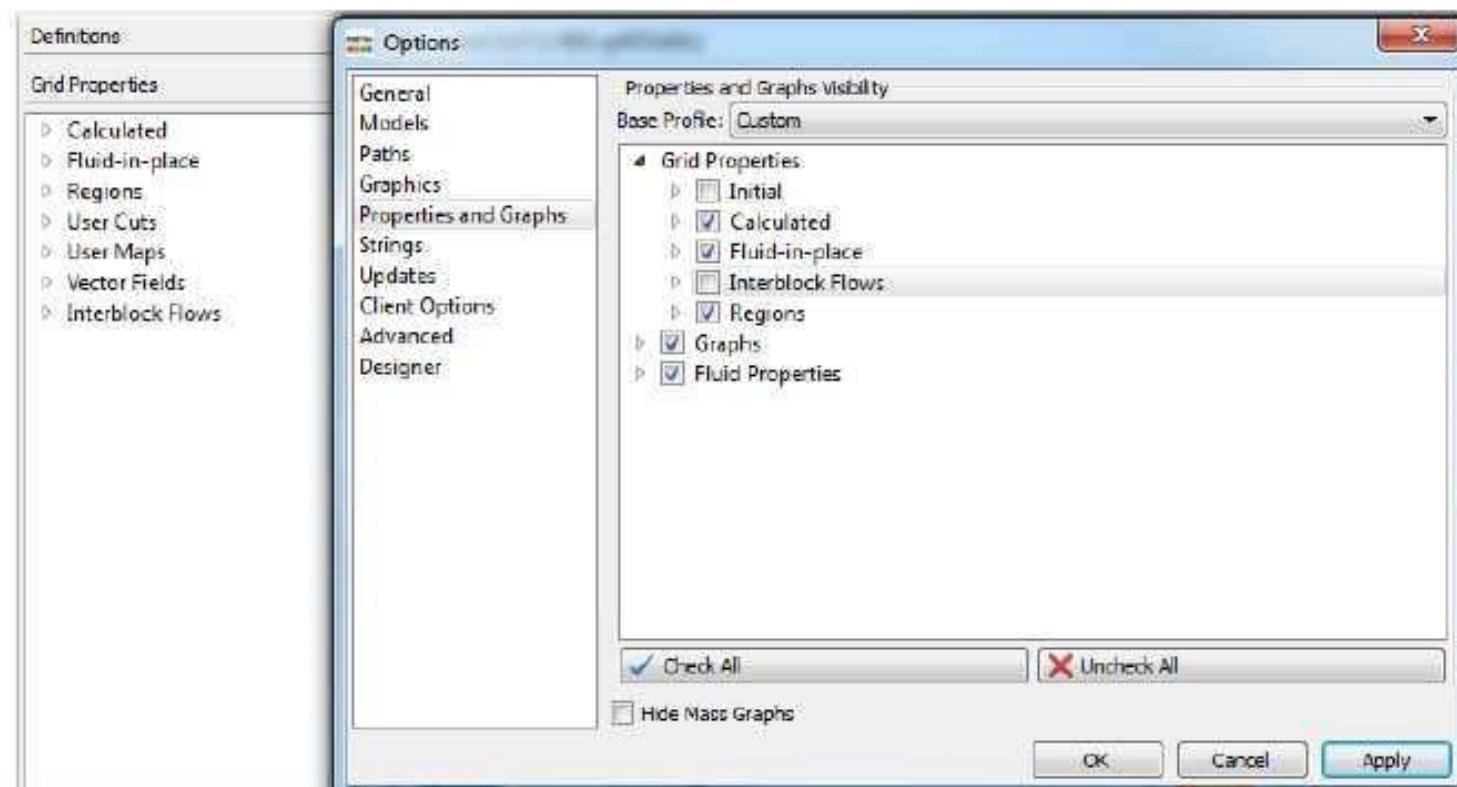

Figure 237. Initial properties and Interblock Flows are not shown.
- Custom (the user creates a customized list of properties and graphs to be displayed by checking those required). On figure 237, for instance, **Initial** grid properties and **Interblock Flows** are unchecked. So those properties are not listed in the **Grid properties. Initial** option.